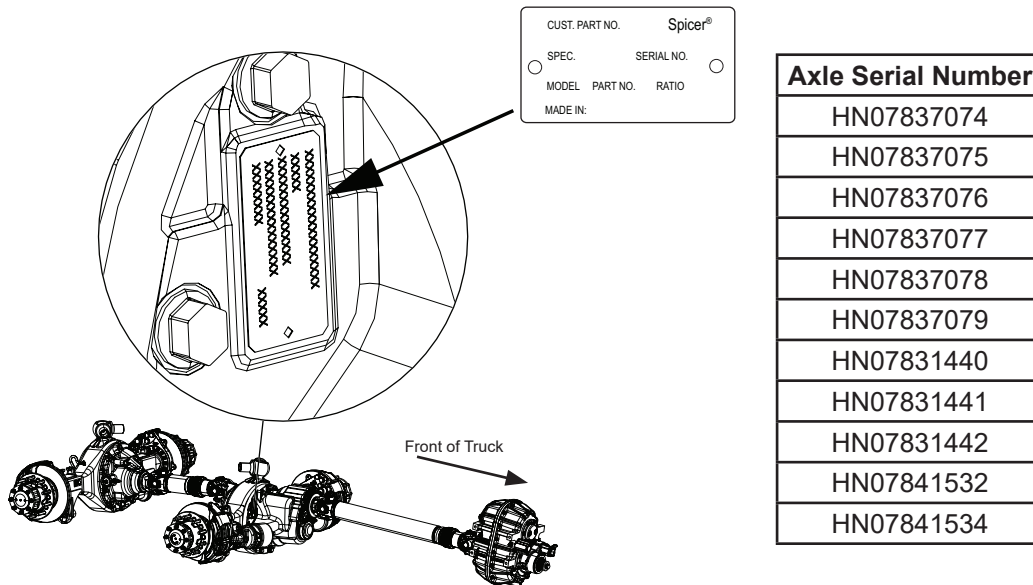

Figure 1
3. Locate the axle identification tag on the forward drive axle, See Figure 1.
If the axle serial number matches one of the serial numbers in the Figure 1 table continue to Step 4.
If the axle serial number does not match one of the serial numbers in the Figure 1 table axle inspection is complete and no further action is required.